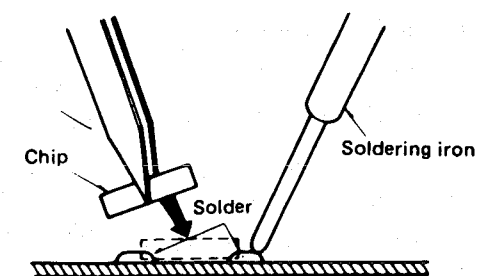

Fig. 7
1. Place solder on the foil where the chip is fitted. Then solder the chip by holding the soldering iron as shown in Fig. 7.